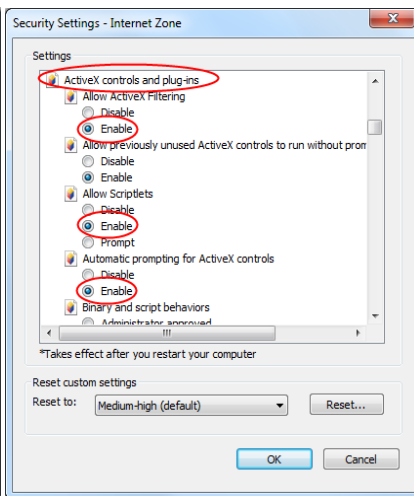

Fig 10-2
- ③ Enable all the sub options under “ActiveX controls and plug-ins”. Refer to Fig 10-2.
- ④ Then click “OK” to finish setup.